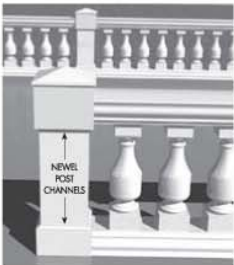

FIGURE 7D
- G) Apply caulk to seam in channels of NEWEL POST assembly to prevent moisture infiltration (FIG. 7D).
- H) Apply a 1/4" bead of urethane base adhesive to NEWEL POST TOP SECTION, and then install NEWEL POST TOP (FIG. 7D).